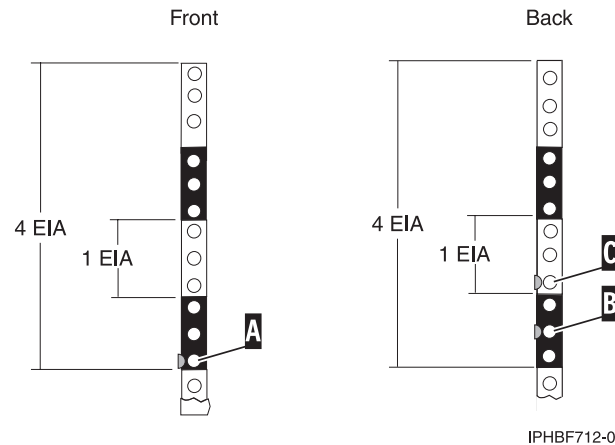

Figure 126. Marking holes on the front and back of the rack frame.
2. Facing the front of the rack and working from the right side, place a self-adhesive dot next to the bottom hole of the bottom EIA unit of the four you will be using for this system unit A in Figure 126 on page 125.
5. Place a self-adhesive dot at the middle hole of the bottom EIA unit, **B** in Figure 126.
6. Place a self-adhesive dot at the bottom hole of the next (above) EIA unit, **C** in Figure 126.